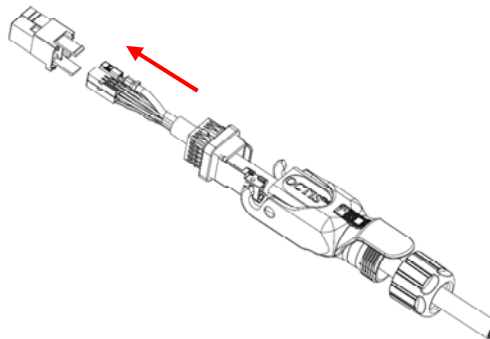

Figure 32
5. Insert the crimped cable assembly into the cable connector housing as shown in Fig 32